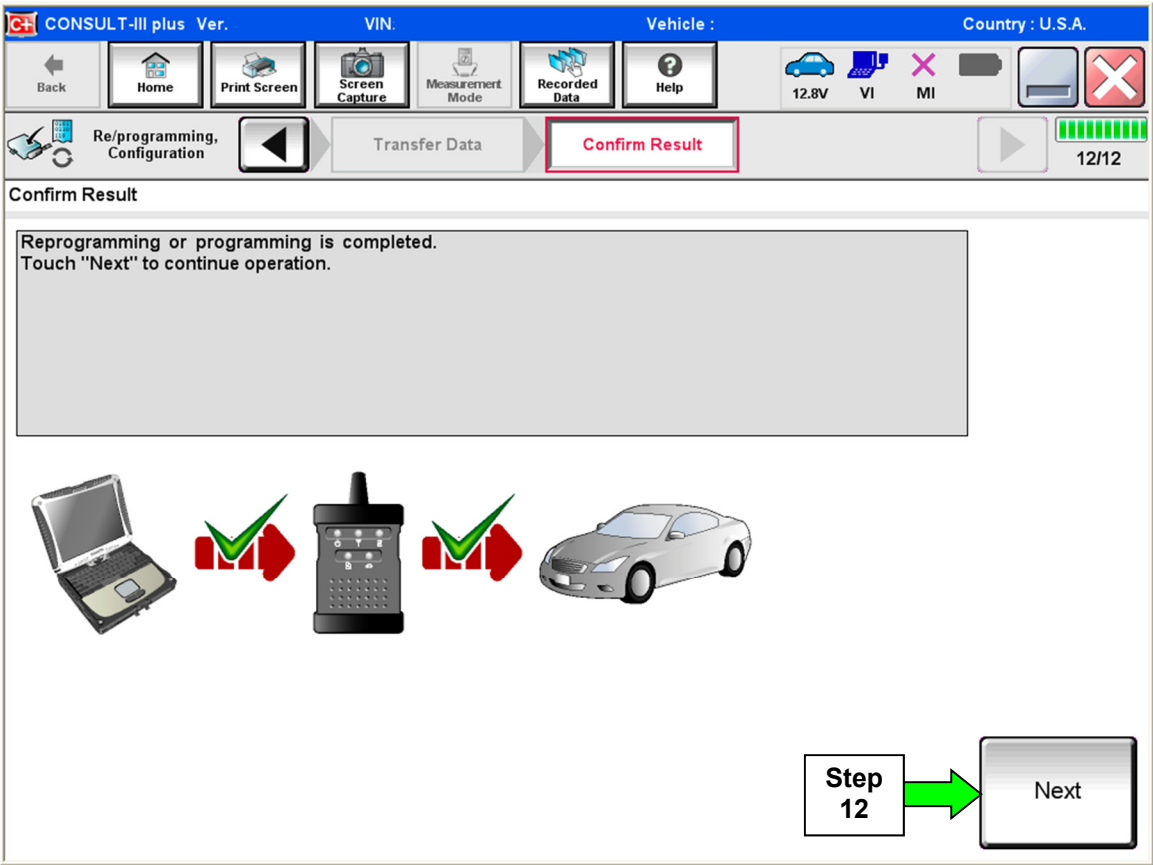

Figure 5
10. When the screen in Figure 5 displays, reprogramming is complete.
**NOTE:** If the screen in Figure 5 does not display (reprogramming does not complete), refer to the information on page 8.